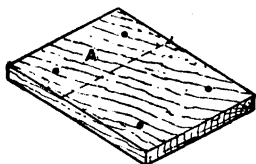
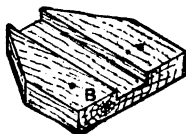

Fig. 16
Fig. 17
Figs. 16 and 17.—Details of Home-made Plough
Home-made ploughs are serviceable tools, and can be constructed from simple material, such as a chisel, some pieces of wood, and a few screws. Knock off the handle from an ordinary $\frac{1}{2}$ -in. chisel having a "shoulder" near the haft, and replace it with a cork; cut to the shape of Fig. 16 a piece of thin wood (say $\frac{1}{4}$ in. thick) $2\frac{1}{2}$ in. in breadth, its length depending on the length of the chisel. Place the chisel on the wood so that the cutting end overhangs about $1\frac{1}{2}$ in.; at the other end mark where the shoulder of the chisel touches the wood, and cut across just above the mark so that the shoulder falls over the edge and allows the chisel to lie flat on the wood. Cut another piece of wood thicker than the last (of full $\frac{1}{2}$ -in. stuff) to the shape of Fig. 17.
B. Put the second piece of wood, groove downwards, on the first one so that the square end B of Fig. 17 rests upon the portion marked A of Fig. 16, allowing the pointed end to overhang. Screw the two pieces together from underneath, taking care
to countersink the screw-heads. In the tunnel thus formed insert the chisel with its *bevelled edge upwards*, as it must always be when in use, and see that it has a rather loose fit. If it is all right, the cutting edge will project about $\frac{3}{8}$ in. at one end, and the shoulder will just fall over the edge at the other end. In a piece of wood c (Fig. 18), measuring, say, 2 in. by $\frac{1}{2}$ in. by $\frac{1}{2}$ in., make a groove of the same width as before, but a trifle deeper than the groove is at B (Fig. 17). Screw this last piece to the foundation A (Fig. 18) so that the groove en-
of course, intended to be pushed to and fro upon the right cheek of the press; but the tool, as it stands, will not cut straight through so as to leave a nice flat surface, but will rise until it has made a "hog's-back." To prevent this, provide a bar of wood κ (Figs. 18 and 19), which should be fixed at one end to the top g of the plough, and should rest at the other end on a guide-rail j fixed to the top face of the left cheek of the press. The bar should be rigid, say of $\frac{1}{2}$ -in. stuff about 8 in. long, and be fixed to the plough with two screws. The top surface of the rail must be level with the top face of a (see Fig. 18); the easiest way to effect this will be to make the rail j of the same stuff as Fig. 17, and let it stand at each end on feet l (Fig. 18), made of the same stuff as Fig. 16. The bar will then lie quite horizontal across the press. Notice, too, that the rail j should be set back 1 in. or more from the inner edge of the left cheek, otherwise it will interfere with the "backing" operations.